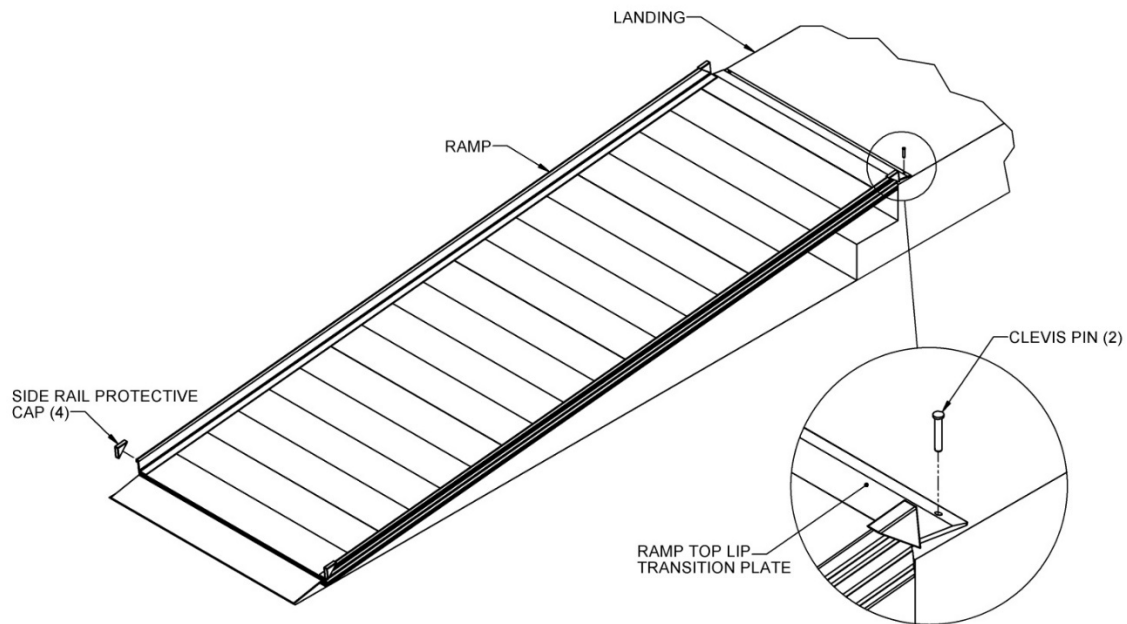

FIG 1
- 2.4.3. Insert the supplied clevis pins through the holes in the top lip transition plate and extending into the holes drilled in the previous step (FIG1).
- 2.5. Install protective caps over side rail corners by placing one cap on each side at both the top and bottom of the ramp. If necessary, use construction adhesive to bond the cap to the ramp (FIG 1).